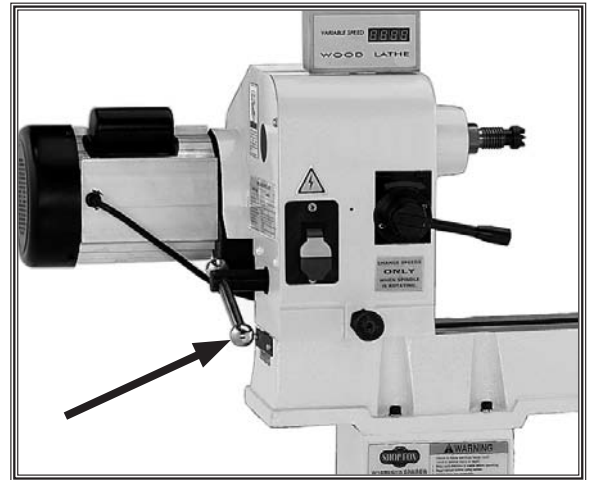

Figure 13. Headstock locking lever.
2. Loosen the headstock locking lever (see Figure 13).
2. Loosen the headstock locking handle (see Figure 13).